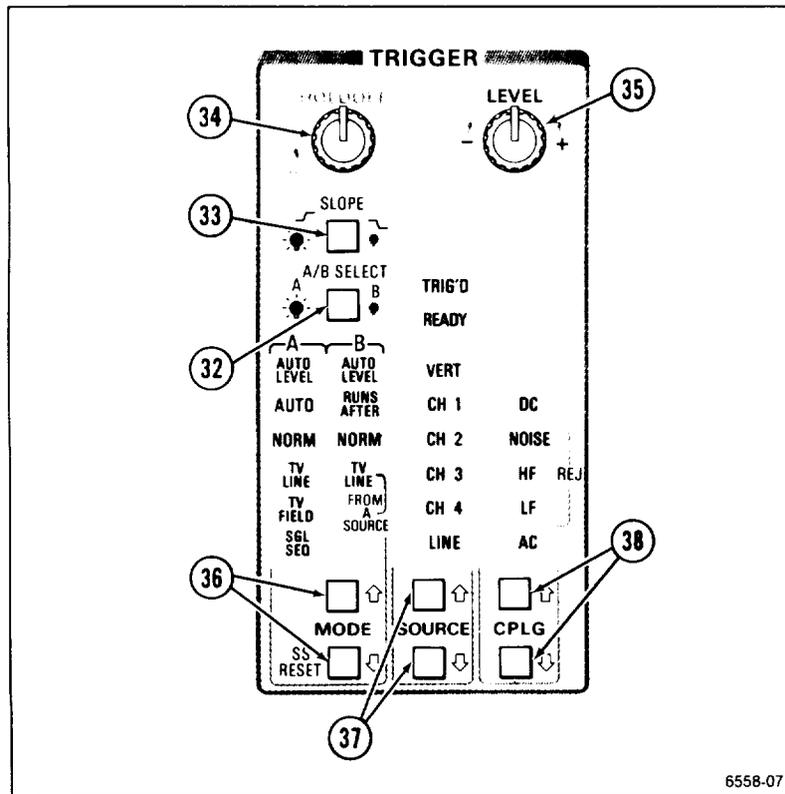

Figure 2-5. Trigger controls and indicators.
Refer to Figure 2-5 for location of items 32 through 38.
- ③② A/B SELECT Button—Directs the MODE, SOURCE, CPLG, SLOPE, and LEVEL controls and Trigger lights (TRIG'D and READY) to either the A or B Trigger system (A, when lit; B, when not lit)